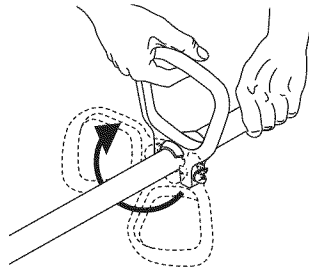

Fig. 1
1. Locate the wing nut on the D-Handle. Loosen the wing nut enough to loosen the D-Handle (Fig. 1).
2. Rotate the D-Handle to the upright position on the front side of the shaft housing (Fig. 1).